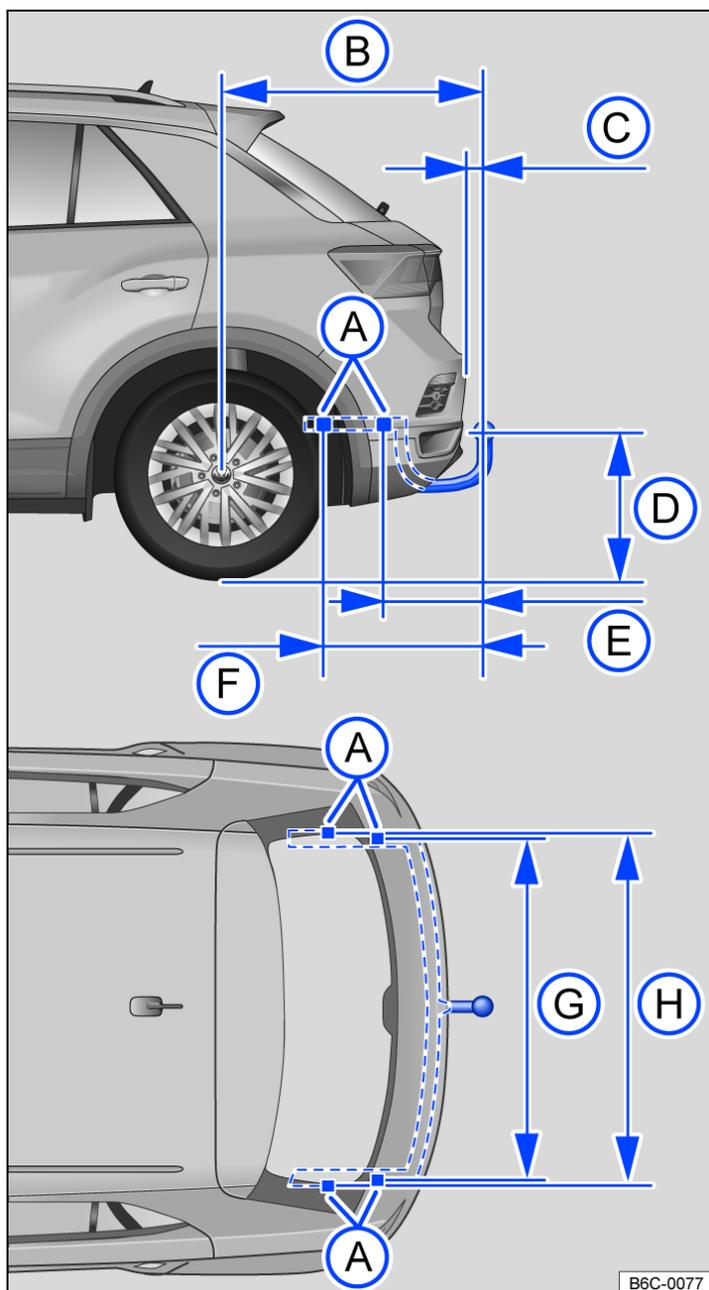

Fig. 1 Dimensions and mounting points for retrofitting a towing bracket.
The dimensions → Fig. 1 must be adhered to when retrofitting a towing bracket. Always observe the minimum distance given from the middle of the ball head (D) to the surface of the road. This also applies when the vehicle is fully laden, including maximum drawbar load.
- (A) Mounting points
- (B) 879 mm
- (C) At least 65 mm
- (D) 350 - 420 mm
- (E) 334 mm